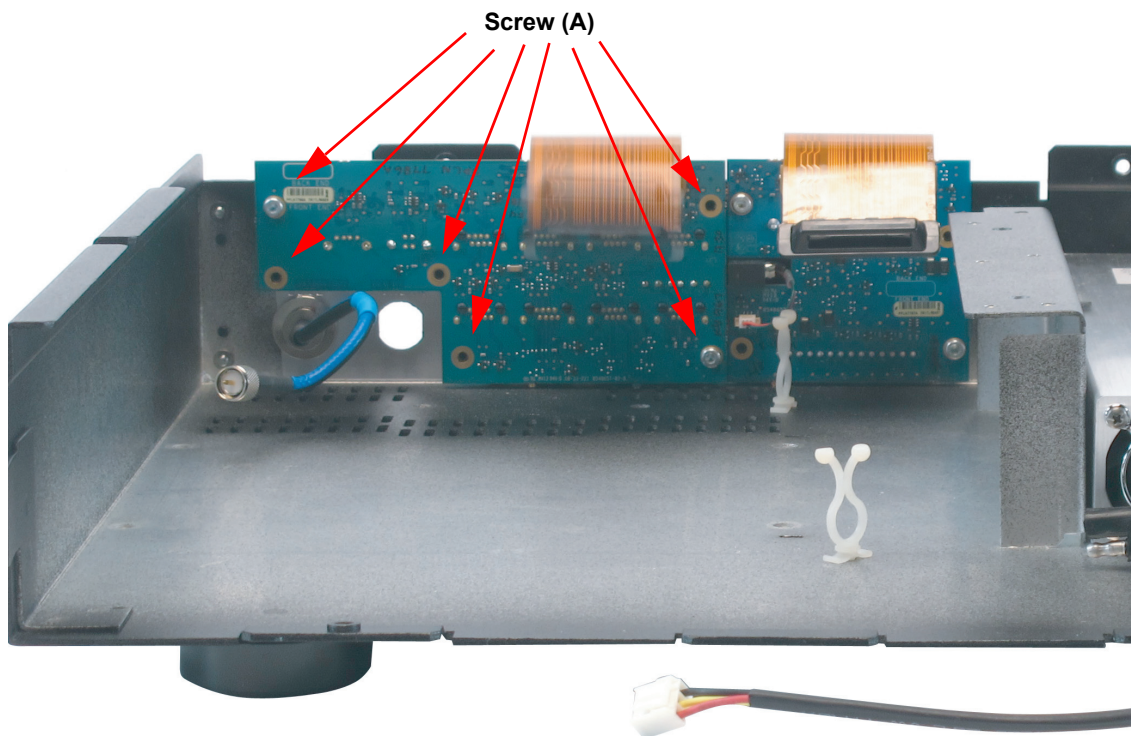

Figure 5-6. Removing and Replacing High Speed Board
1. Remove the six screws (A) on the High Speed Board assembly as shown in Figure 5-6 using a T15 TORX™ driver.
3. Install the six screws (A) on the High Speed Board assembly as shown in Figure 5-6 using a T15 TORX™ driver.